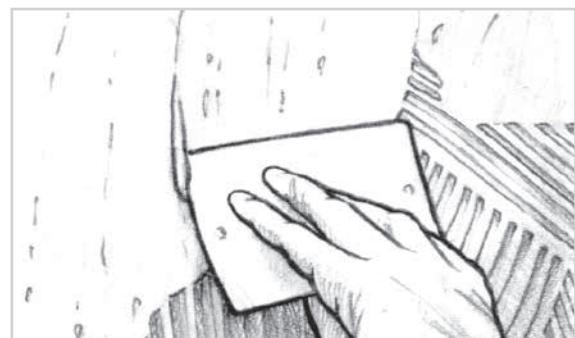

Figure 14-8 Trowel a second layer of fairing compound over the surface to fill the grooves after the ridges have been sanded fair.
7. Trowel a second layer of fairing compound over the surface to fill the grooves (Figure 14-8). Use a smooth-edged spreader held firmly against the surface to drag away excess compound, leaving a smooth surface flush with the faired ridges. Mix the fairing compound for the second layer to the same density as the first layer. Allow the fairing compound to cure thoroughly.